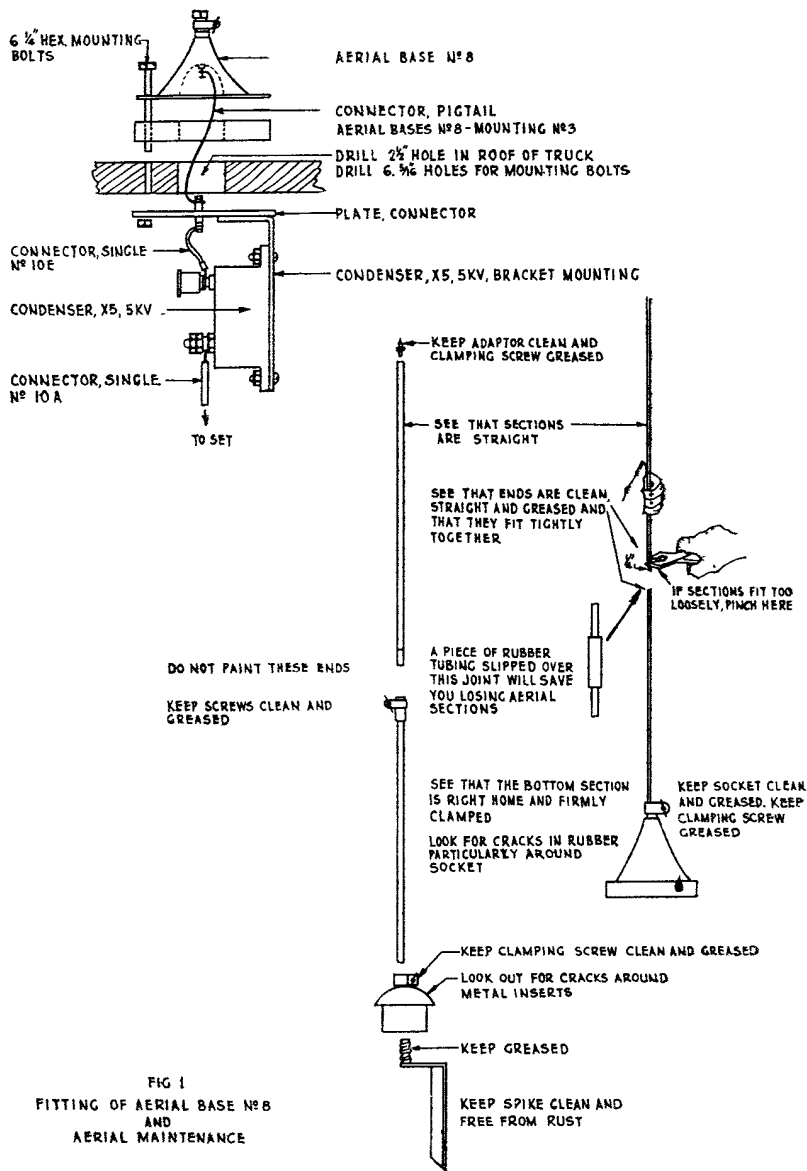

FIG 1
- .07 Fit Aerial base, No. 8, etc., to Roof of truck as shown in Fig. 1.